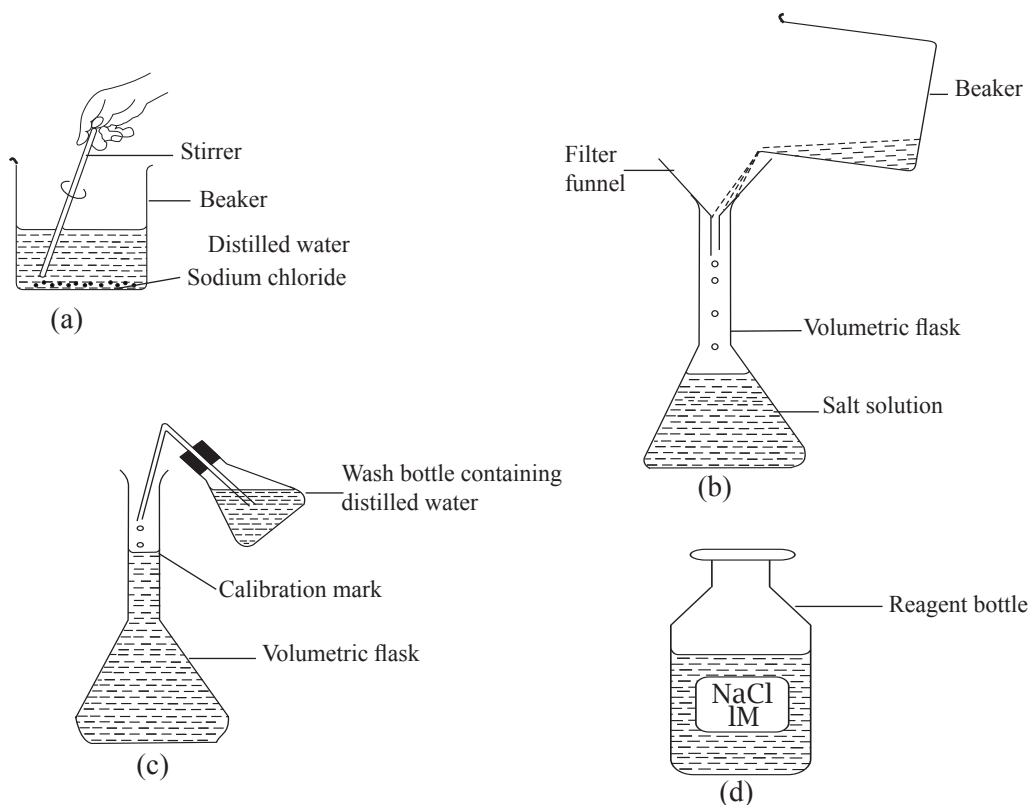

Fig 7.2: How to make 1M solution of sodium chloride
4. Using a filter funnel transfer the salt solution into a 1 dm³ volumetric flask Fig. 7.2(b).
6. Add more distilled water and shake the flask well. Add more water until the solution level is just below the calibration mark. Using a wash bottle add more distilled water drop by drop until the bottom of the meniscus is at the same level with calibration mark Fig. 7.2(c).
8. Transfer the solution into a reagent bottle and label it 1M NaCl, see Fig. 7.2 (d).